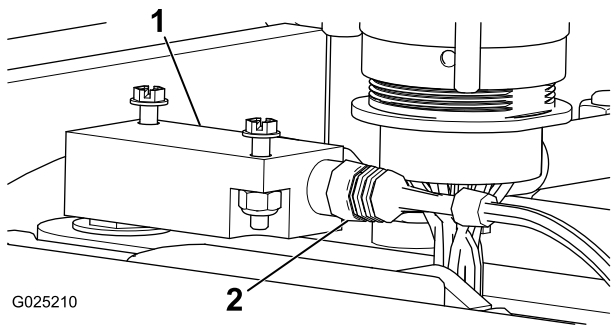

Figure 3
4. Connect the sensor to the open connector from the main wire harness as shown in Figure 3.